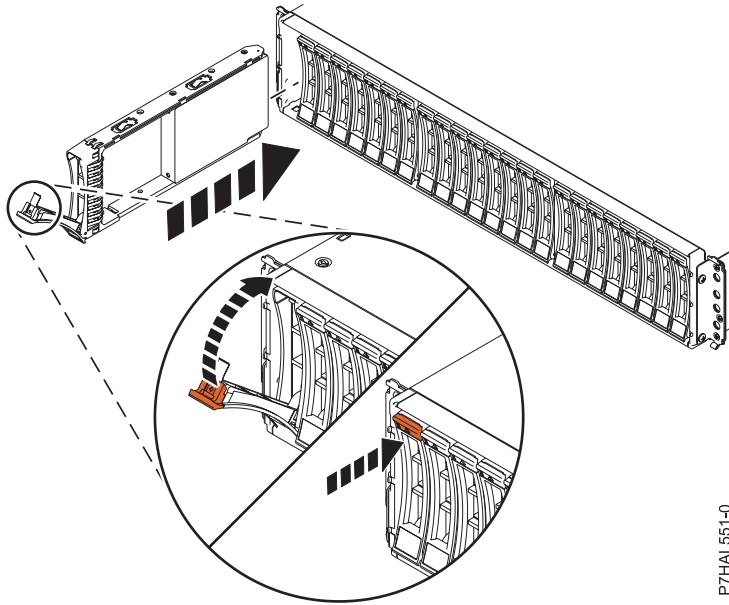

Figure 11. Installing the disk drive in the 58/87 disk drive enclosure
1. With the handle in the unlocked position, as shown in Figure 11 on page 21, support the bottom of the drive as you align it with the guide rails in the expansion unit.